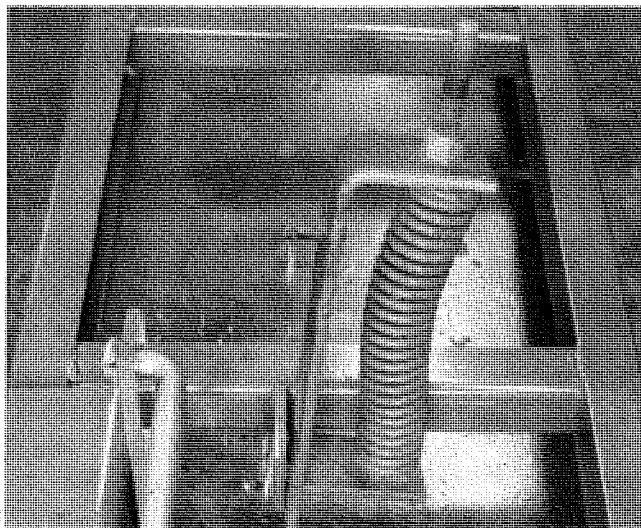
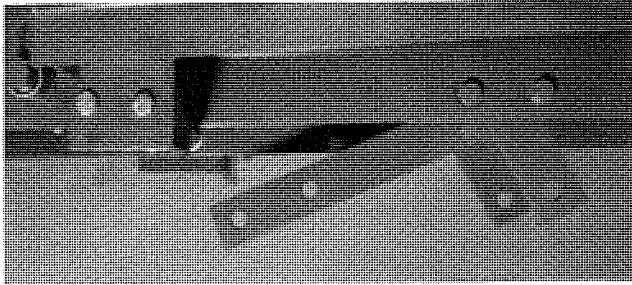
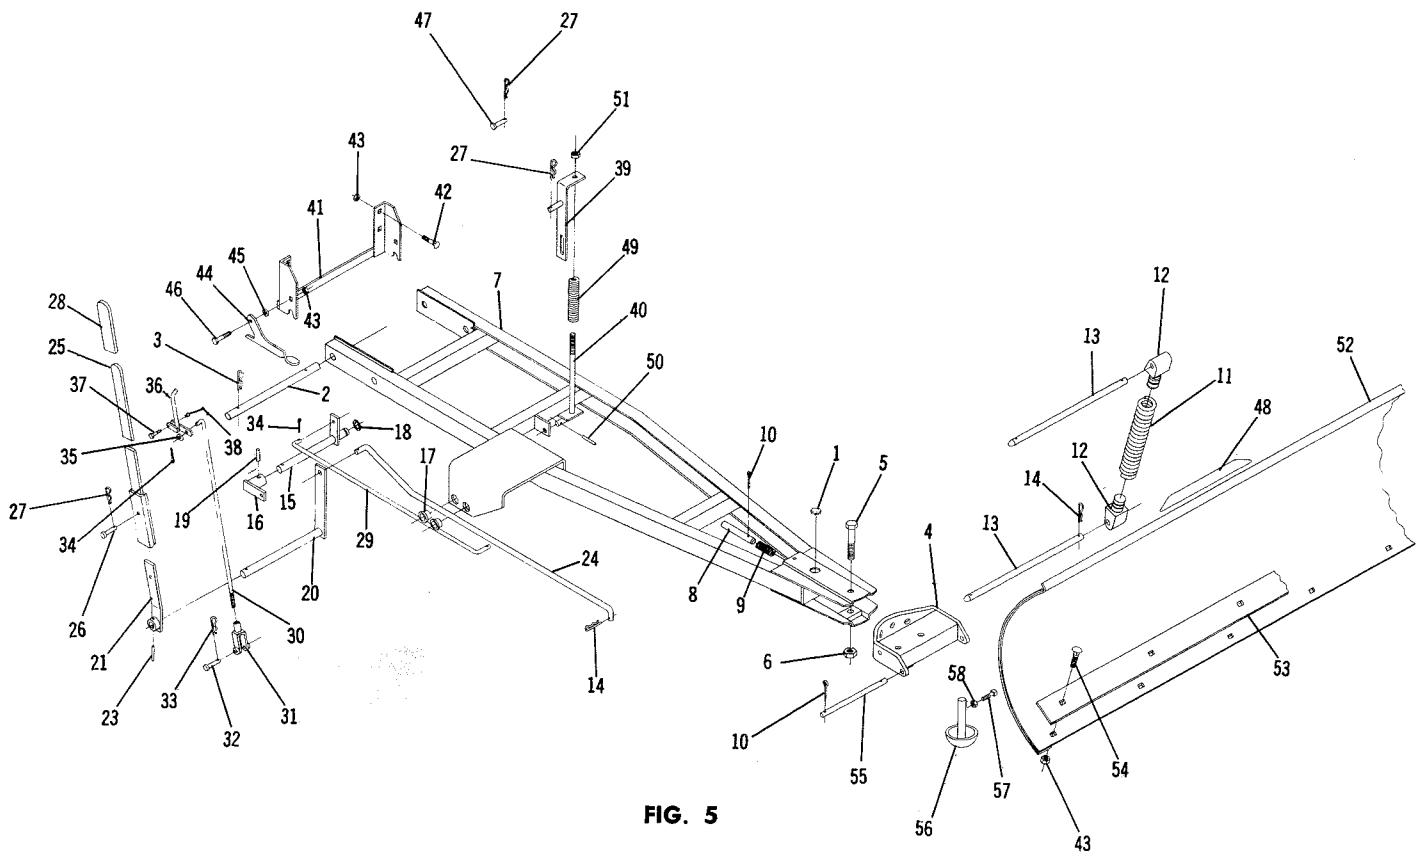

FIG. 3
FIG. 4
FIG. 5
The Blade is shipped complete in one carton. It has been partially preassembled. To complete the assembly, group the parts similar to that shown in Fig. 5.
The Blade Control Rod, item 24, is inserted through the top of the pivot sector, item 4, and secured with hairpin cotter. Bolt the Pivot Sector, item 4, to the frame assembly using the Hex Bolt, item 5, and elastic stop nut, item 6. (NOTE: Apply a liberal coat of grease before installing.) Insert the bolt from the top and tighten, leaving it loose enough for the blade to swing free. Attach the control rod to the control arm. See Fig. 3.
Referring to Fig. 3 and Fig. 5, place Spring, item 49, over the Lift Rod Assembly, item 40. Install the Lift Bar, item 39, with the hole over the Lift Rod and the slot engaging the stud on the Lift Rod. Add Nut, item 51, to the top and Pin, item 50, to the bottom.
The Lift engaging pin, Fig. 3 is installed in the rear hole of the two hole pattern in the tractor lift bar, Fig. 4.